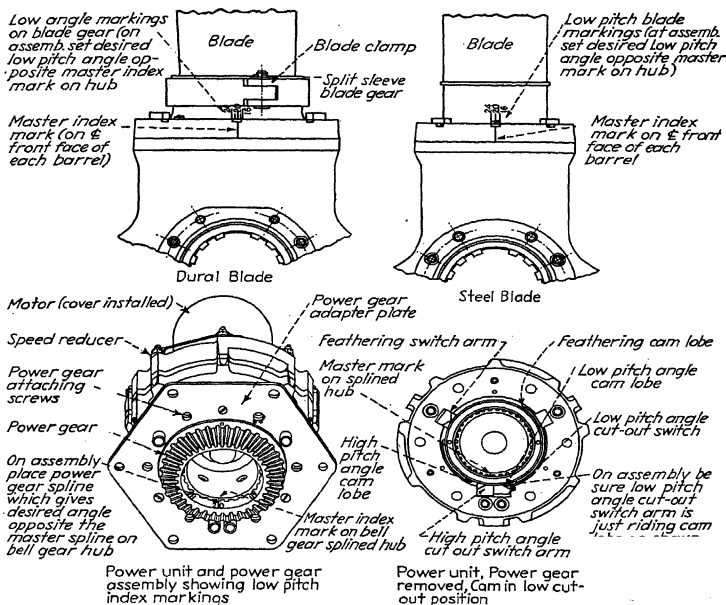

FIG. 56.—Method of index marking for Curtiss propellers.
**Power Unit Installation.**—Two types of blade and power unit indexing systems are used: the first was used in the earlier model propellers and the second in the late models. They have, respectively, (1) index marks on the power gear and steel adapter plate, and on the blade gears; (2) index marks (Fig. 56) indicating a series of blade angles on the blade shanks just outside of the hub and a series of marks inside the power gear.
Instructions for the index marking system (2) are as follows (Fig. 56). This system is used on later model propellers.